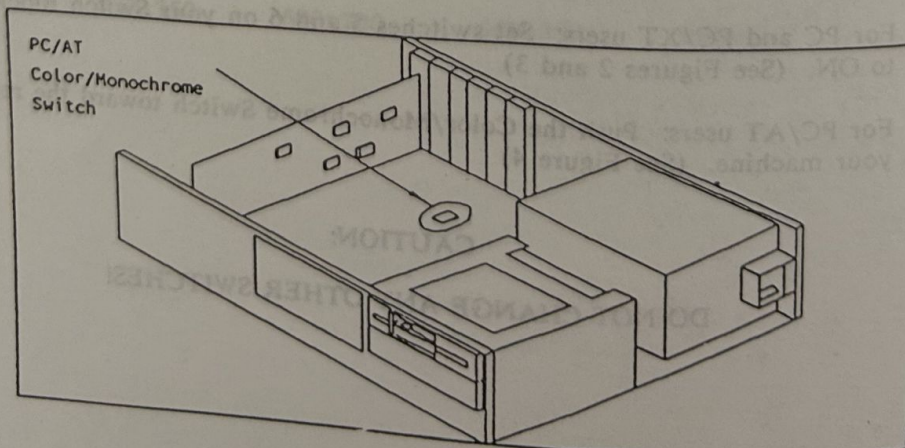

Figure 4
- For PC/AT users: Push the Color/Monochrome Switch toward the rear of your machine. (See Figure 4)